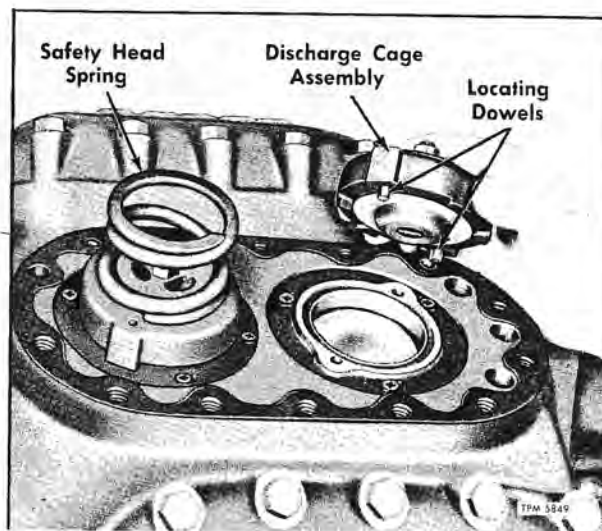

Figure 67—Removing Discharge Cage Assembly
4. Slowly and alternately remove two cylinder head end bolts, then the top center bolt. Remove head. Lift off safety head springs (3) and remove head gasket (1).
5. Lift discharge valve assembly from compressor (fig. 67).
6. Remove lock nut (38) from discharge valve bolt (39). Remove bolt and valve seat (43). Separate discharge valve ring, five springs, cushion retainer, and cushion from discharge valve cage.